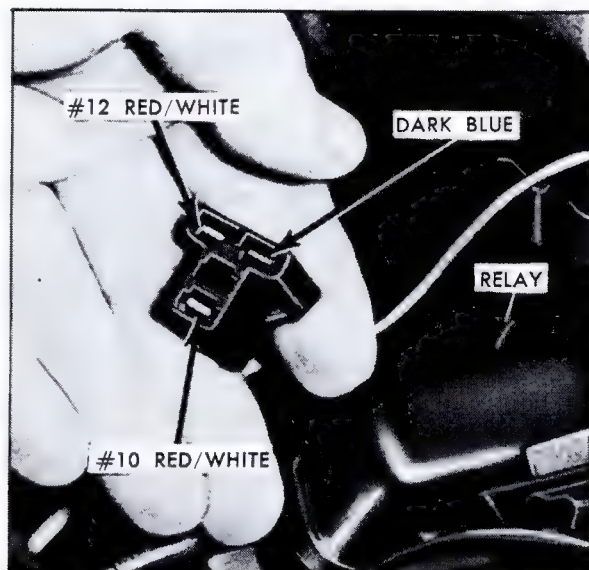

Fig. 15-53 Relay Multiple Connector
5. Detach multiple connector from relay. Touch one lead of test lamp to connector terminal attached to dark blue wire, Fig. 15-53 and ground other lead. Lamp should light. If lamp lights but relay did not click in step 4, the relay or light blue wire to the thermal switch is defective and must be replaced. If lamp does not light, proceed to step 6.
10. Touch one lead of test lamp to relay connector terminal attached to red wire, Fig. 15-53 and ground other lead. Lamp should light. If it does not, proceed to step 11.